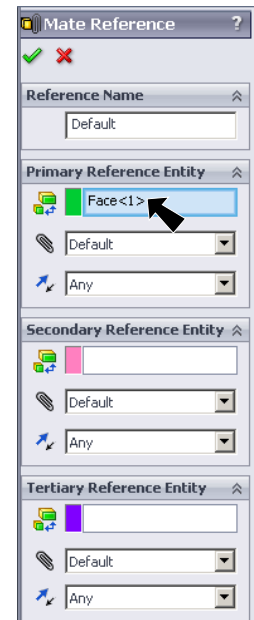

Fig. 20
Step 3. In the Mate Reference Property Manager click OK , Fig. 20.